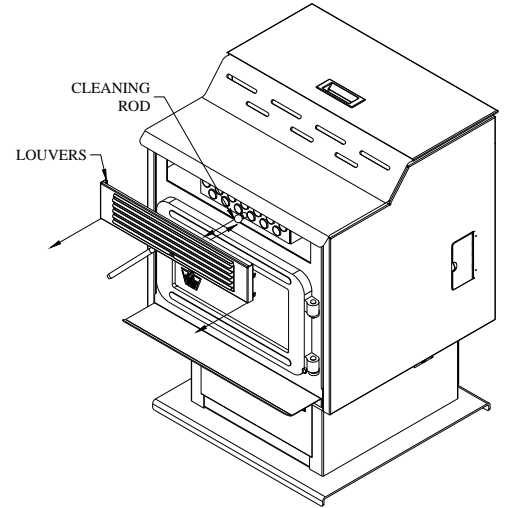

Figure 23
- c. With the door closed, clean heat exchanger tubes by sliding the cleaning rod back and forth. (see Cleaning section and Figure 23) .